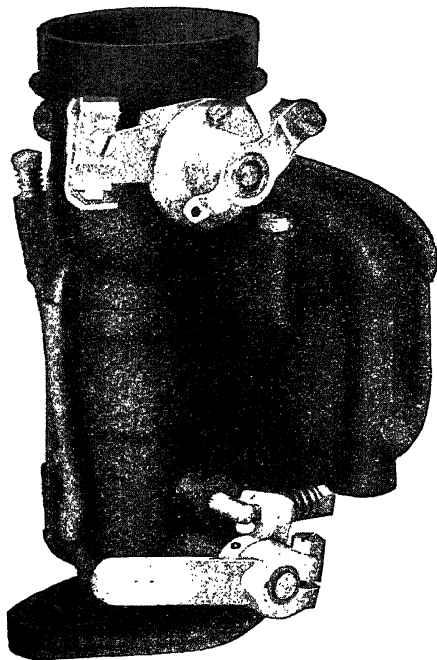

Fig. 36. Zenith Down-Draft Carburetor
**Model "IN-175."** The Zenith compound nozzle system is used in the Model "IN-175" carburetor, Fig. 36. This consists of two jets,